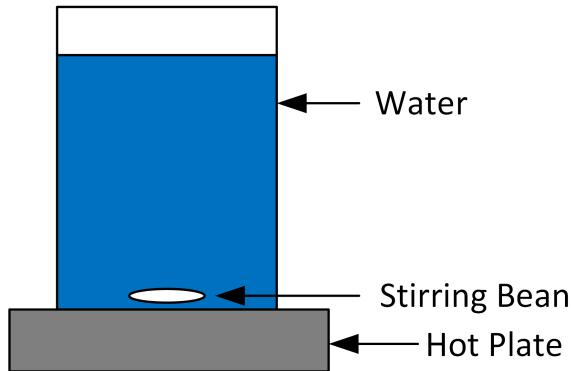

Figure 2: Heat bath for thermocouple experiment.
1. Set up a heated water bath as shown in Fig. 2.